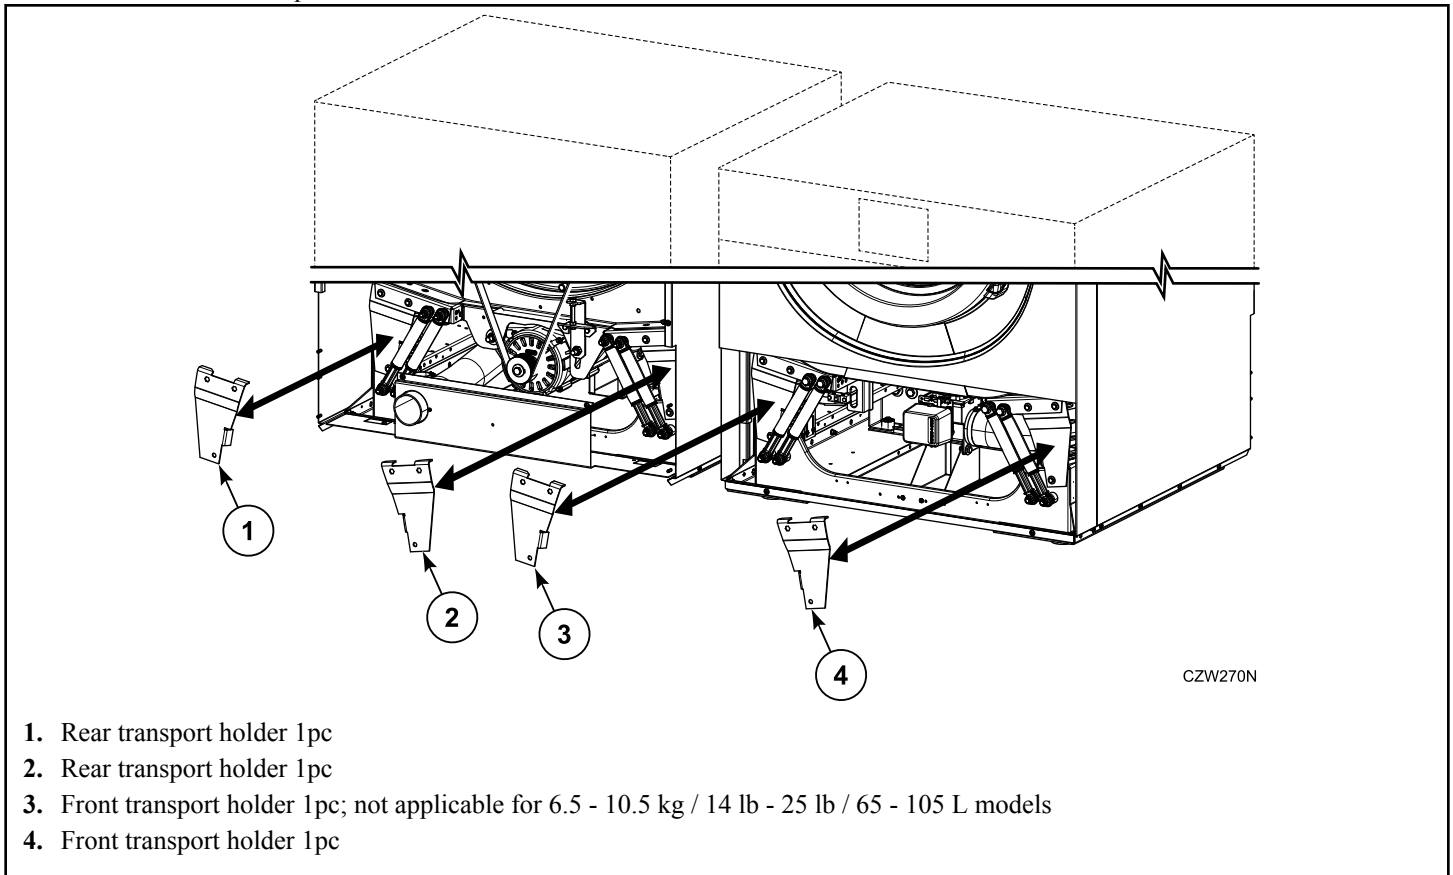

Figure 14
1. Remove front and rear panel, refer to *Figure 14*.